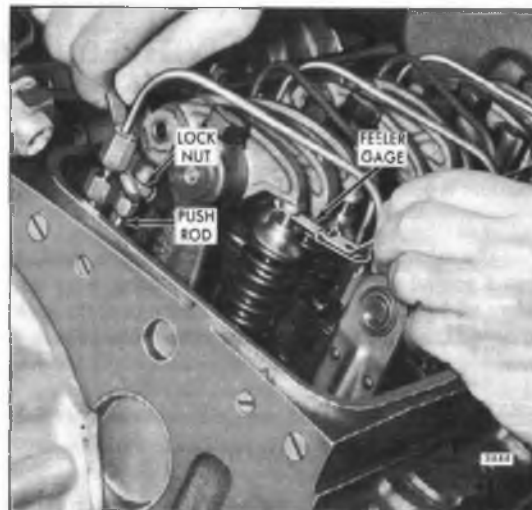

Fig. 1 - Adjusting Valve Clearance (Two Valve Head)
5. Place a .012" feeler gage (J 0708-01) between the end of the exhaust valve stem and the rocker arm bridge (Fig. 1). Adjust the push rod to obtain a smooth "pull" on the feeler gage.